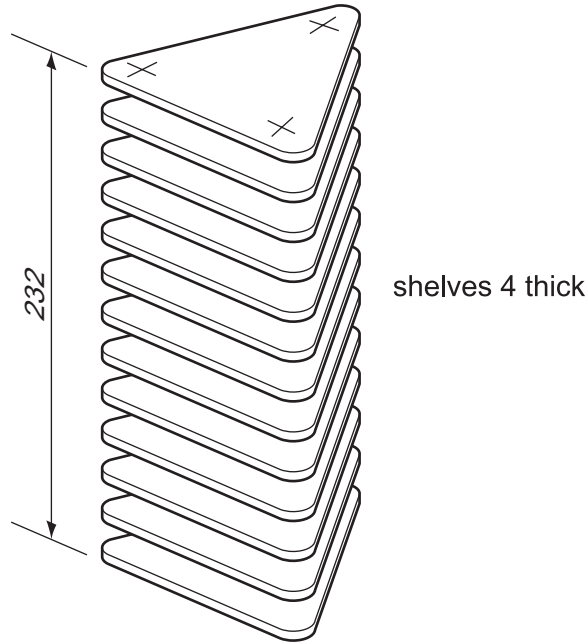

Fig. 4
11 Fig. 4 shows an incomplete design for a Compact Disc (CD) rack made from acrylic.
(a) Give **two** advantages of using acrylic rather than wood for the CD rack shown in Fig. 4.